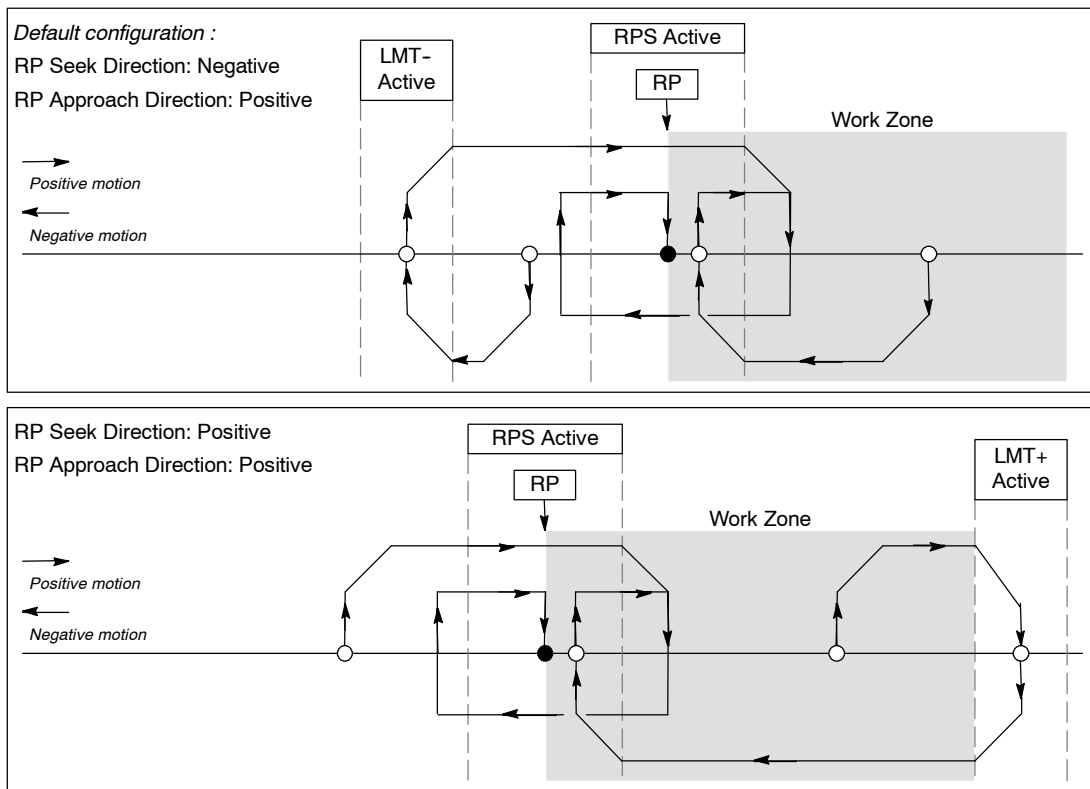

Figure 9-15 RP Seek: Mode 2
- ☐ Figure 9-15 shows two of the options for RP seek mode 2. This mode locates the RP in the center within the active region of the RPS input.